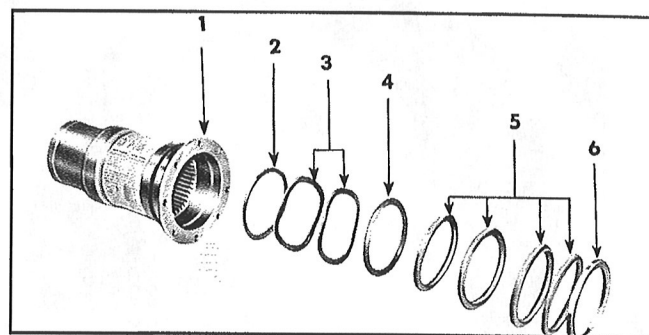

Figure 120—Installation of the Torque Unit Seals
**Step 11.**—Place the seal spacer ring in the blade cylinder with the chamfered side of the ring facing the piston. See Figure 120.
**Step 12.**—Place the cylinder seal springs in the cylinder next to the seal spacer ring. See Figure 120.
**Step 13.**—Place the cylinder male ring in the cylinder with the flat side facing the seal springs, as shown in Figure 120.
**Step 14.**—Place the blade cylinder seals in the cylinder with the seal lips facing the cylinder male ring. See Figure 120.